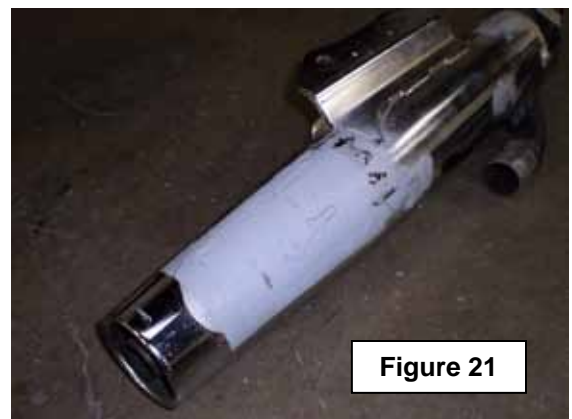

Figure 21
- Remove bracket illustrated in Figure 21